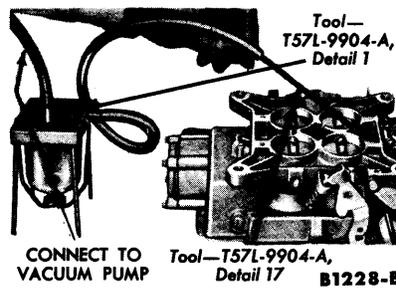

FIG. 3—Power Valve Check
3. Connect a line from a vacuum pump to the fitting on top of the fixture. Insert the large OD end of the wand in the tube and attach the other end of the tube to the fitting on the side of the fixture. Slip the rubber gasket (furnished with the tool) over the small OD end of the wand. Hold this end against the power valve vacuum pickup port (Fig. 3).